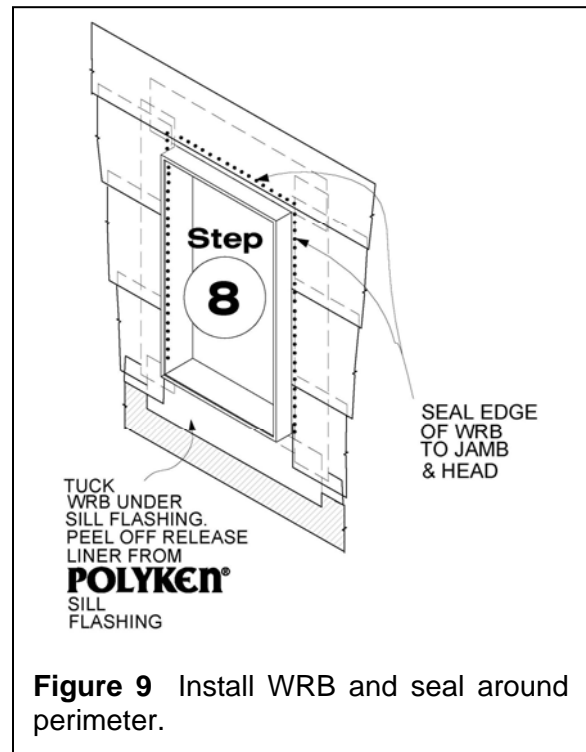

Figure 9 Install WRB and seal around perimeter.
Step 8. Install weather-resistant barrier (WRB) shingle fashion from bottom of wall to top. Integrate sill flashing by inserting WRB under sill flashing. Peel off remaining release liner from Polyken® or Nashua® sill flashing and adhere to WRB. Seal edges of WRB to window jamb and head (see Figure 9).